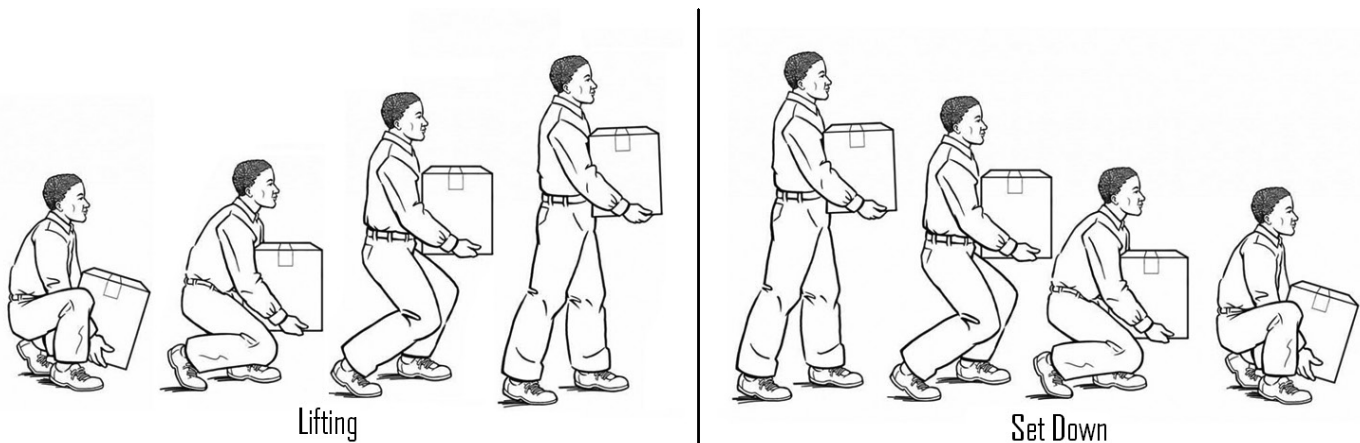

Figure 1
There are two basic types of spool valves used in conjunction with these pumps — Open and Closed Center. In the Open Center Valve (See Figure 1), the flow goes straight through the valve when in the neutral position. This type is used for constant displacement pumps where the flow should never be shut off.
- When lifting and carrying, always keep the pump close to your body. (See Figure 1)
- When starting the lift, bend your knees and keep your back straight. (See Figure 1) Tightening the stomach muscles will help keep your back straight.
- During the lift, use your legs to do the work. Never use your back, and make sure your legs are at least shoulder-width apart. (See Figure 1)